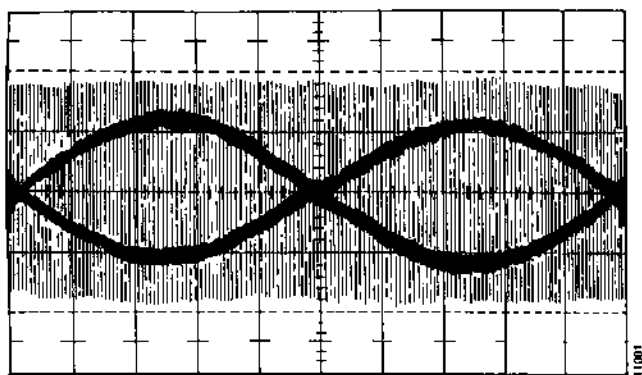

Figure 4-6. Head Alignment Waveform
11. Monitor the *cat-eyes* alignment waveform on track 38 (see Figure 4-6). The amplitude of the two lobes displayed should be within 80% of each other.